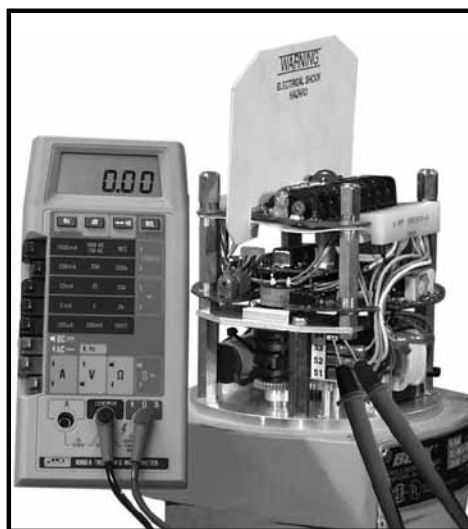

Figure 5
- b. For drives with Option 3, remove the cable tie holding the switch wires, remove the two wires from the CCW limit switch (second from the top), and attach the meter across these contacts. See Figure 5 (for method only). Rotate the cam until the meter shows no continuity (switch contacts open, switch clicks).
- b. For drives with Option 3, remove the cable tie holding the switch wires, remove the two wires from the CW limit switch (top switch), and attach the meter across these contacts. See Figure 5. Rotate the cam until the meter shows no continuity (switch contacts open, switch clicks).